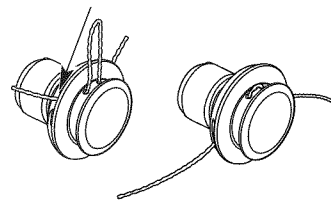

Fig. 16
5. Pull the line and make sure the line is against the hub and is fully extended through the positioning tunnels (Fig. 16).